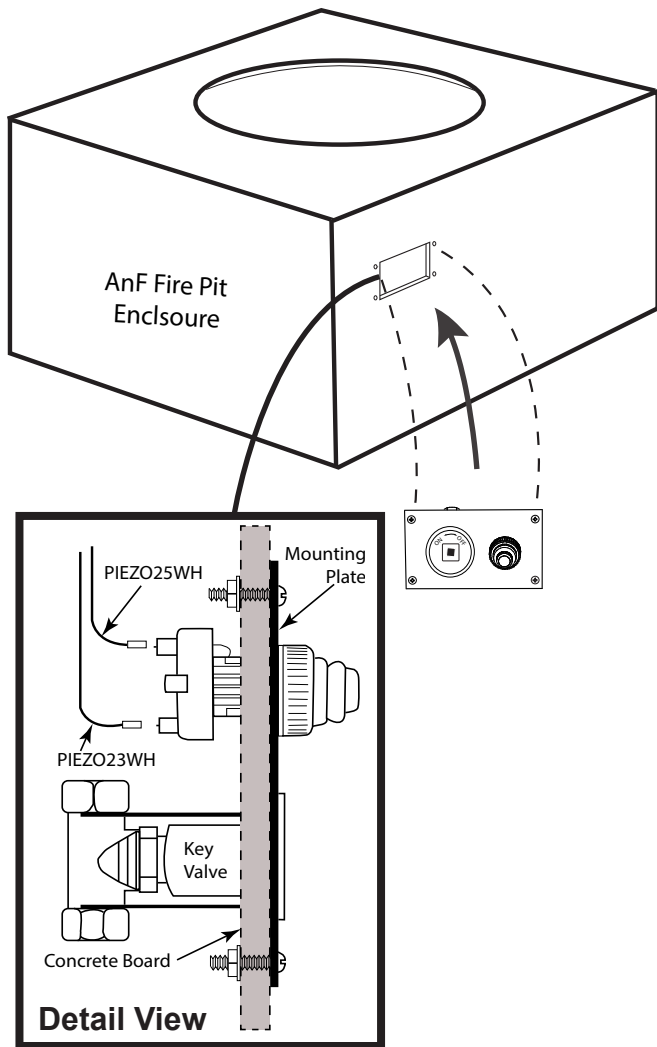

Fig. 8 Shows mounting plate installation.
Step 8: Determine a location to install the mounting plate into the fire pit enclosure. See Fig. 8. The location should be within 40-inches of the ignition hood on the fire pit. This is to ensure there is enough wires to reach to each connection. On the back of this manual is a 1:1 template for use when cutting out the hole for the mounting plate.
Before installing the mounting plate connect the wires as shown in Fig. 8 and follow the remaining instructions for final assembly. Ensure you have run the gas connections according to the fire pit install manual.
Step 11: Once the wiring and gas connections are complete then install the mounting plate with the screws, washers and nuts as shown in Fig. 8 detail view.